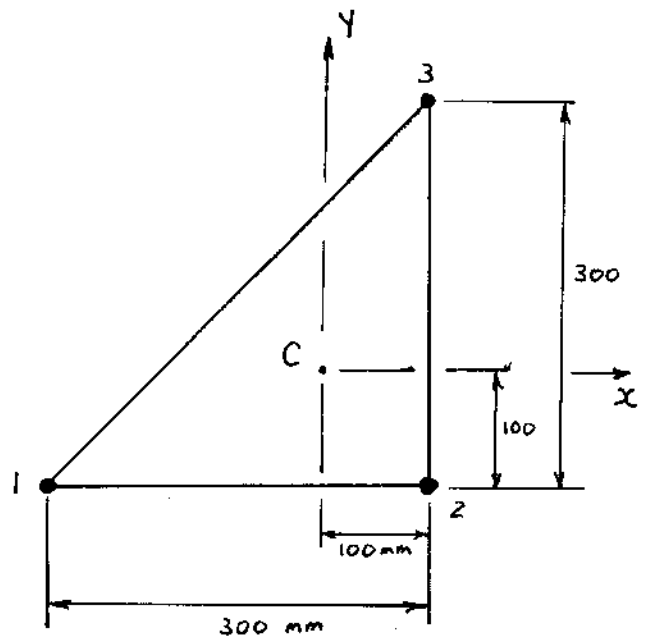

FIGURE 2
- 2) The fully idealized cross-section shown in Figure 2 has the following properties: